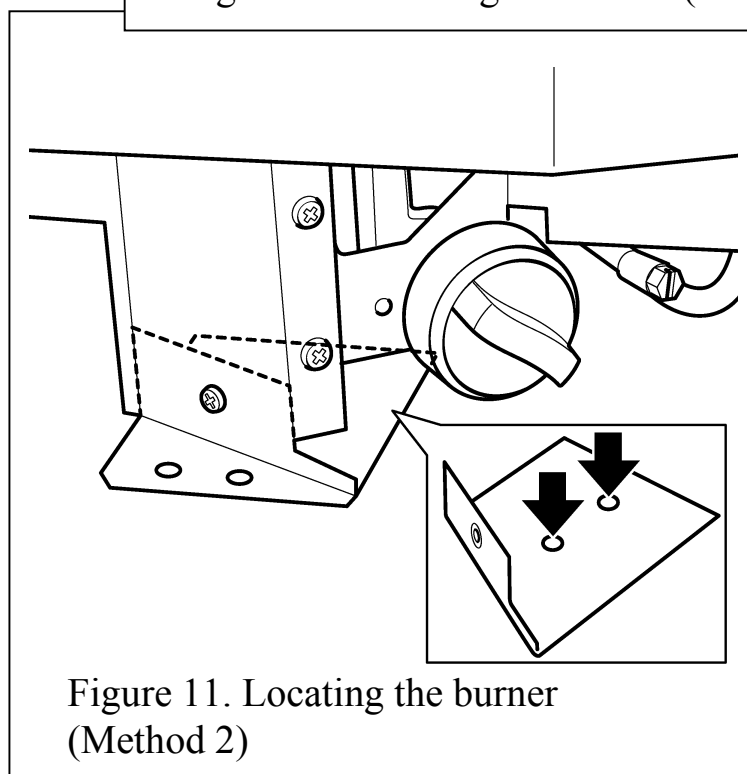

Figure 11. Locating the burner (Method 2)
- Mark on the fireplace floor the position of one of the fixing holes in the bracket that is attached to the rear of the front leg. There are two holes in this bracket to allow the soundest and most even surface of the fireplace floor to be used for fixing (See figure 11).